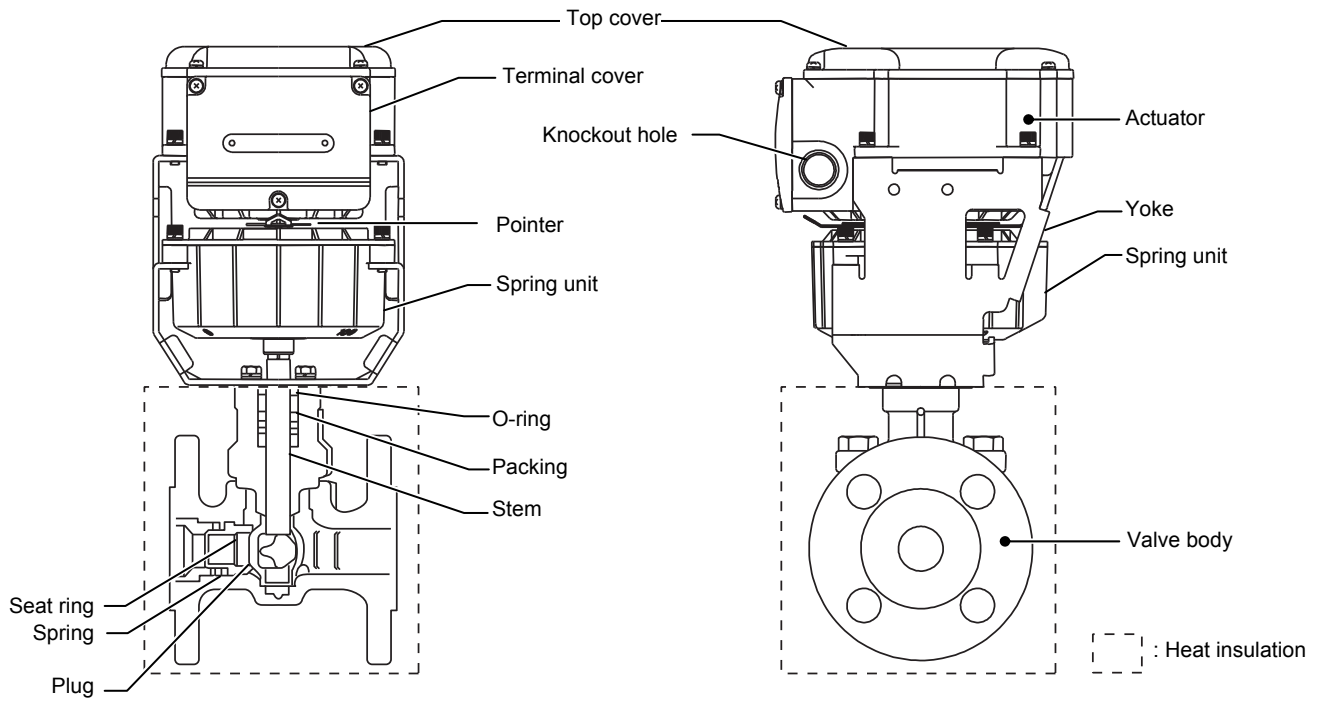

Figure 3. Parts identification
- Install the ACTIVAL in a position allowing easy access for maintenance and inspection. Fig. 3 shows the minimum clearance for maintenance and inspection. When installing the ACTIVAL in a ceiling space, provide an access hole within the 50 cm radius of the ACTIVAL. And, place a drain pan under the valve.